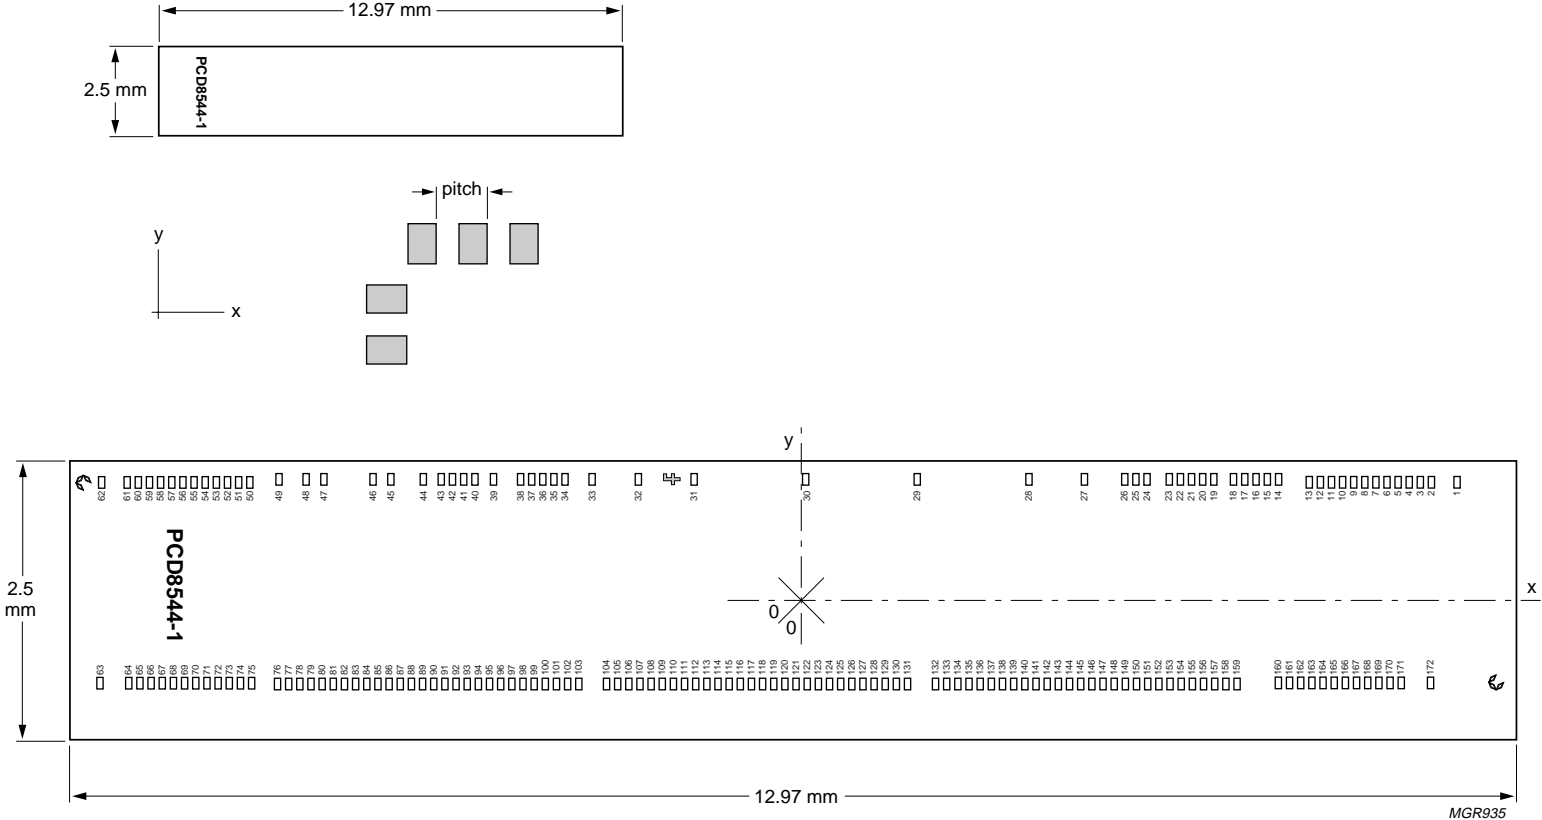

Fig.18 Bonding pad locations.
14.1 Bonding pad information (see Fig.18)
All X/Y coordinates are referenced to the centre of chip (see Fig.18)